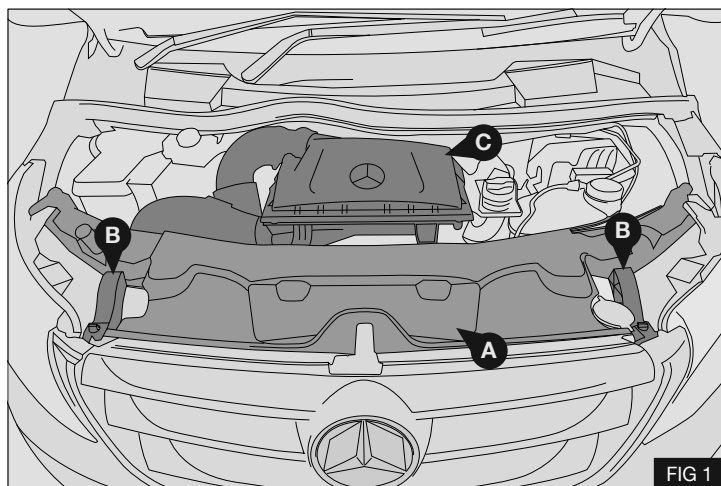

FIG 1
1. Remove the cover (A) front grill supports (B) air filter assembly (C) and the engine under panel - Fig 1